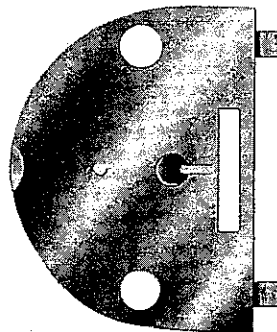

Fig. 51
5. Insert any one of the three needle plates (Fig. 51), included in the Eyelet Buttonhole Attachment Set, according to the size of eyelet to be made (see General Instruction No. 5).